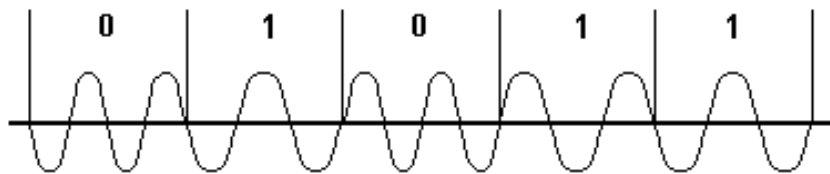

Figure 4: Frequency Shift Keying.
- Bit encoding method (shown in Figure 4) - Frequency Shift Keying (FSK)